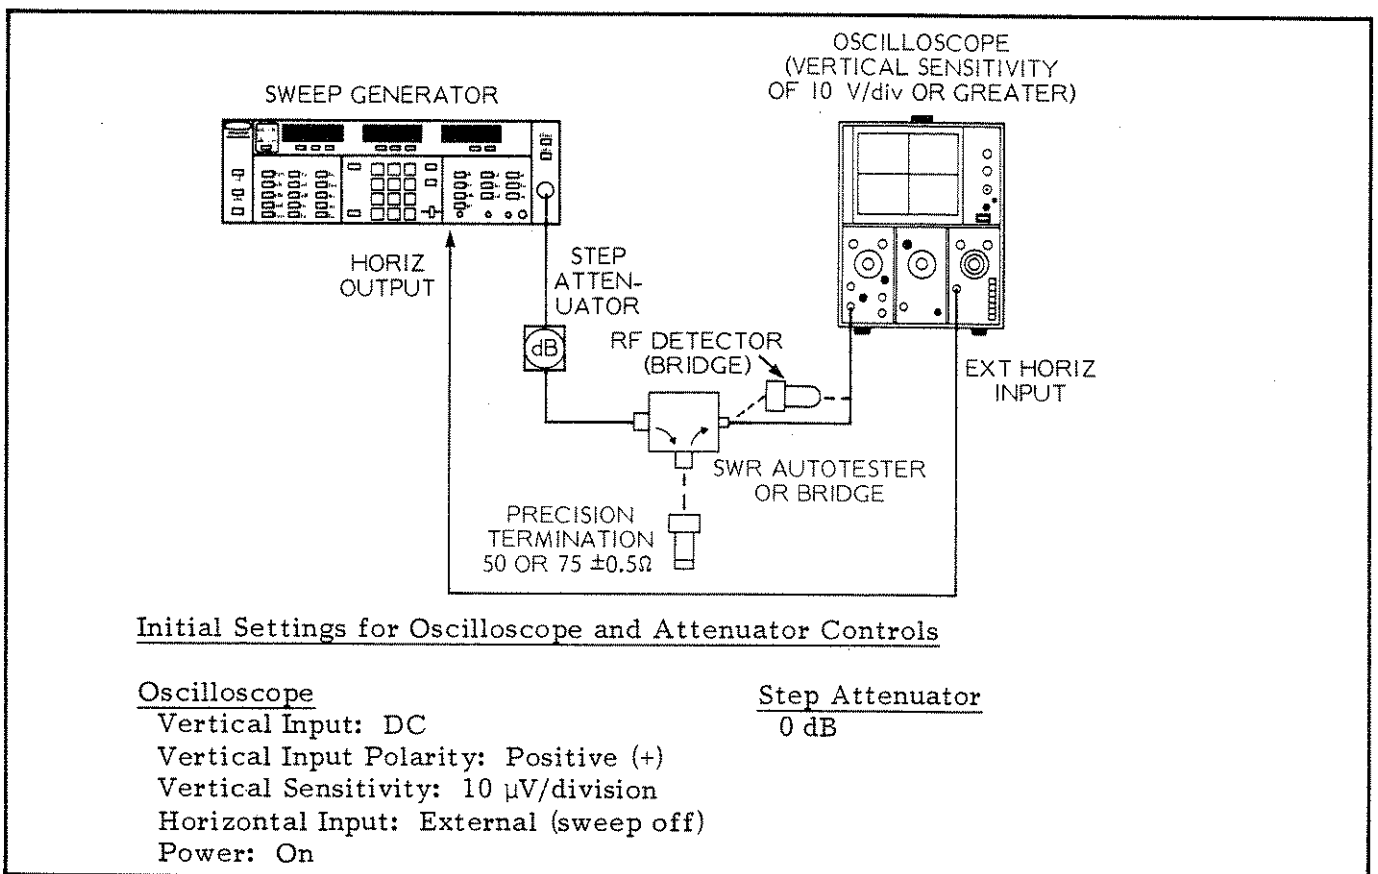

Figure 3-2. Equipment Setup for Direct, Go/No-Go Test
1. Set up the equipment as shown in Figure 3-2. Position the oscilloscope and step attenuator controls as shown. Do not connect the termination to the test port.